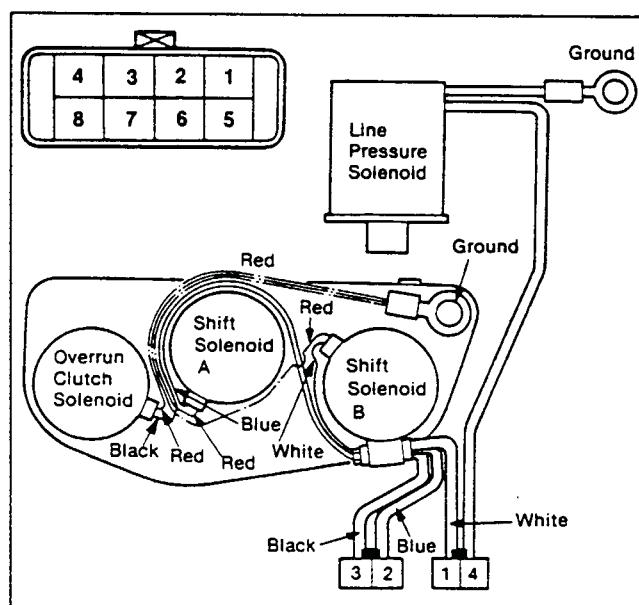

**Figure 90. Lock-up Solenoid and Line Pressure Solenoid Resistance Check**
## Solenoid (Figures 90 and 91)
- Check resistance across the lock-up solenoid and line pressure solenoid terminals using a circuit tester (figure 90).